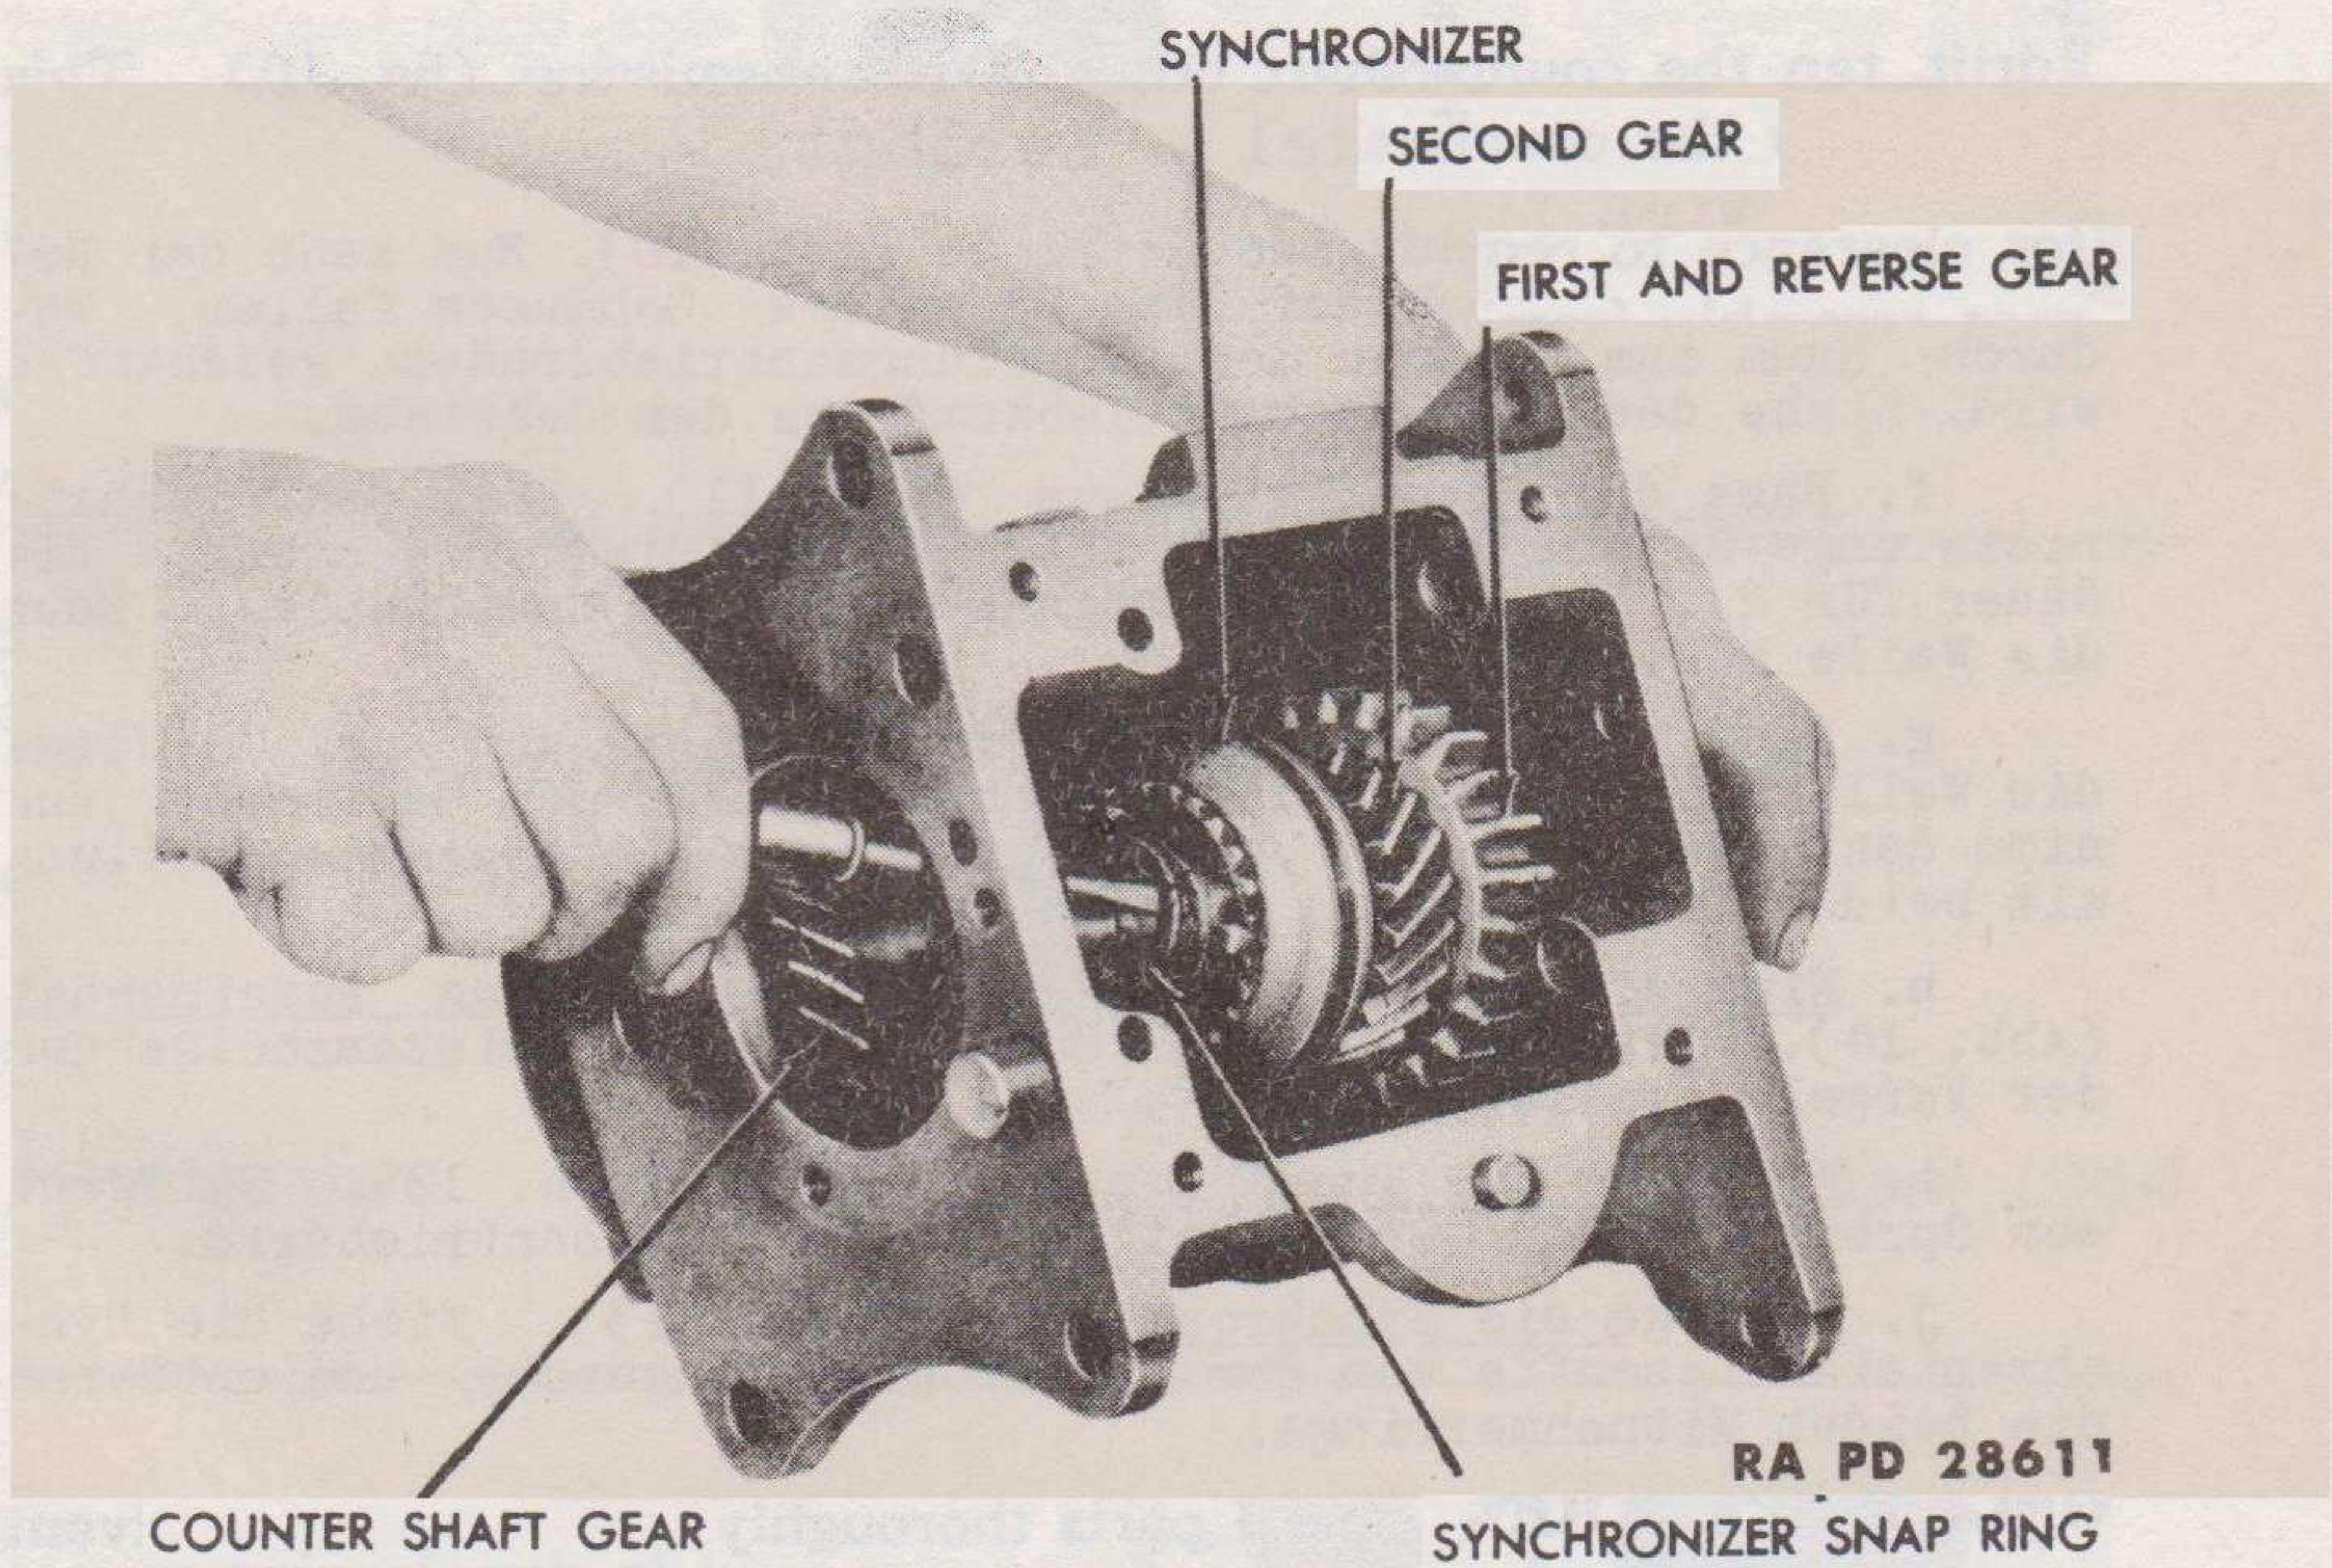

Figure 11 — Removing Synchronizer Hub Snap Ring
f. **Remove Mainshaft** (fig. 11). Remove the synchronizer hub snap ring. Slide the synchronizer assembly, second and first and reverse gear off the mainshaft. Remove the shaft.